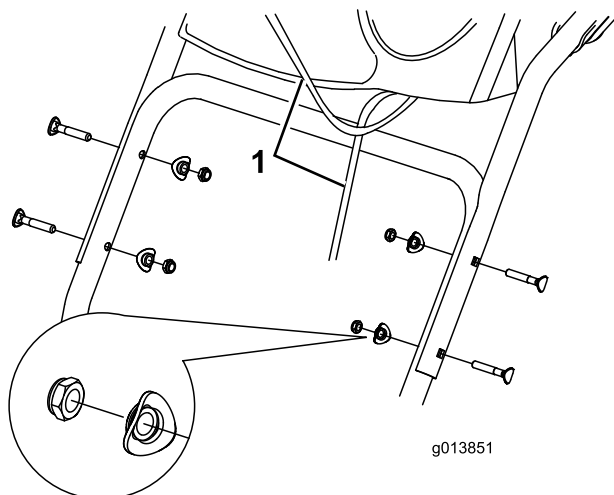

Figure 1
Important: Route the 2 cables attached to the Quick Stick inside the upper handle legs (Figure 1). Do not pinch the cables.
2. Secure the upper handle (Figure 1).